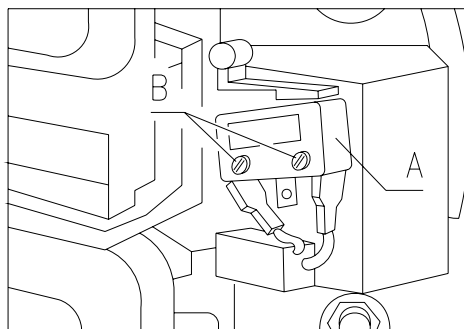

FIG. 17
8.8 REMPLACEMENT COURROIE DE MOUVEMENT DES "PORTILLONS" (FIG. 17)
8.9 SUBSTITUTION MICROINTERRUPTEURS PORTILLONS DE PRELEVEMENT (FIG. 17) ⚠